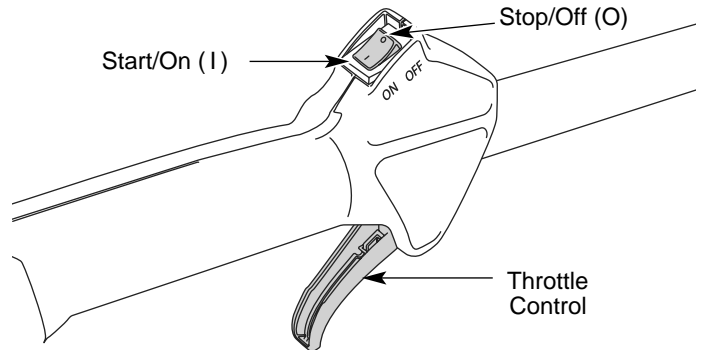

Fig. 9
**NOTE:** There is no need to turn the unit on. The On/Off Stop Control is in the ON (I) position at all times (Fig. 9).
2. Press and hold On/Off Stop Control in the OFF (O) position until engine comes to a complete stop (Fig. 9).